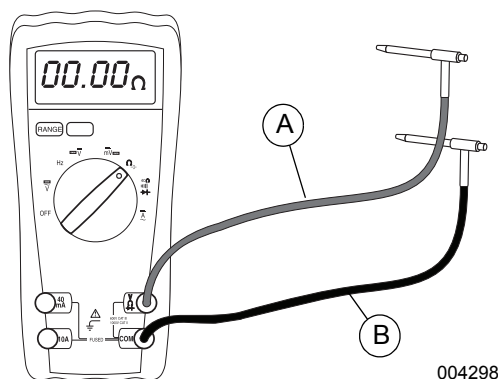

Figure 4-8. Ground Wire Test Setup
1. See Figure 4-8. Insert RED test lead (A) into **VΩ→+** receptacle in DMM.